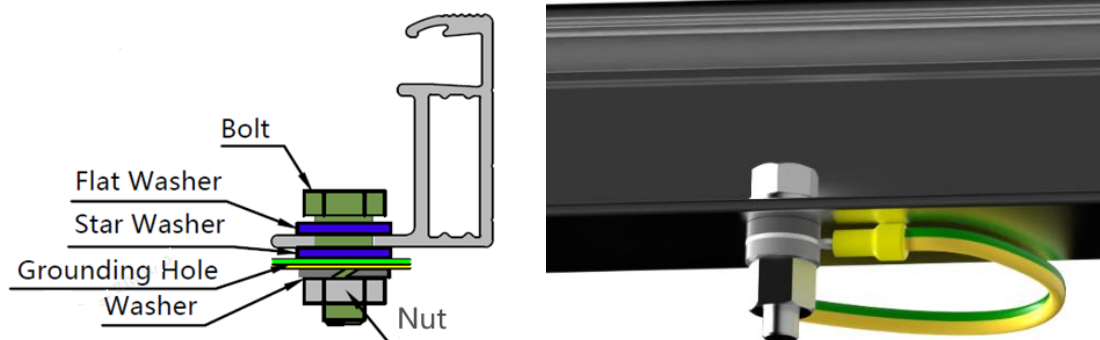

Figure 9. Grounding hole with bolts
- There are grounding holes with a diameter of 4mm on the long side of the back frame of the module, by the edge part. The grounding hole on the frame is marked with typical grounding symbol ($\equiv$) according to IEC 61730-1:2023 standard. These holes can only be used for grounding with bolts, so cannot be used for module installation. This method includes bolt, flat washer, star washer, washer and nut (see Figure 9) . The bolts should be tightened when grounding is installed. The frame of the module must not be punched with additional holes and no damage should be done to the module frame or the grounding wire.